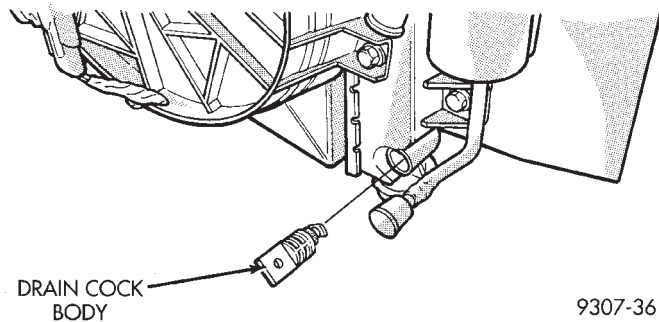

Fig. 33 Draincock—Typical
- (1) Turn the drain cock stem counterclockwise to unscrew the stem. When the stem is unscrewed to the end of the threads, pull the stem (Fig. 33) from the radiator tank.